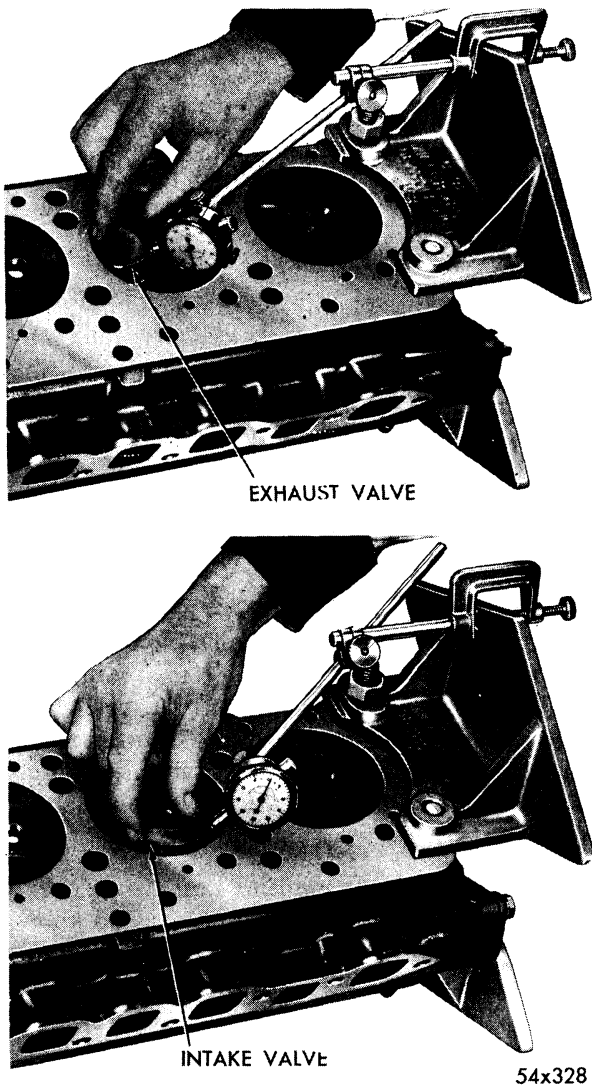

Fig. 63—Checking Valve Guide Clearance (Typical)
- (2) Attach dial indicator, Tool C-430, to the cylinder head and set the plunger so as to contact the edge of the valve being checked (at a right angle as near as possible), as shown in Figure 63.
- (3) Move the valve to and from the indicator. The total dial indicator reading should not exceed .008 inch on the intake valves or .014 inch on the exhaust valves. If readings are more than the above specifications, install new valves and ream the guides as required.